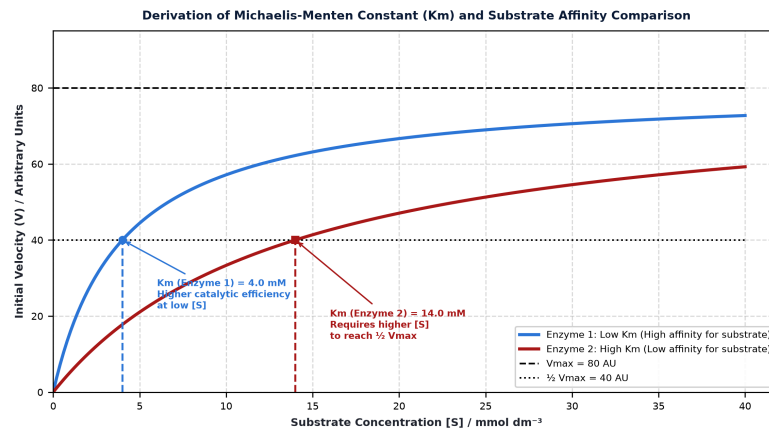

Fig. 3.9: Derivation of K_m from $\frac{1}{2} V_{max}$ for Enzyme 1 and Enzyme 2.
The Michaelis–Menten constant (K_m) is a fundamental kinetic parameter in enzymology. Fig. 3.9 shows the kinetic curves of two enzymes, Enzyme 1 and Enzyme 2, that act on the same substrate.
- (b) Using Fig. 3.9, determine the numerical value of K_m for Enzyme 1 and Enzyme 2. [2]